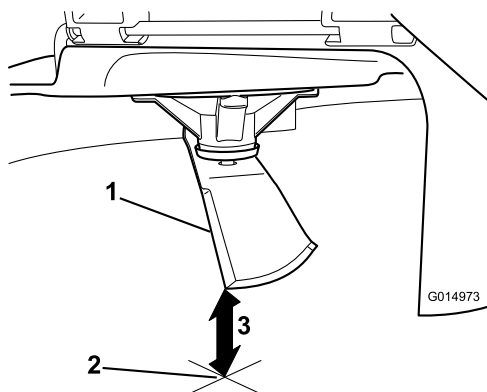

**Figure 58**
3. Measure from the tip of the blade to the flat surface (Figure 58).